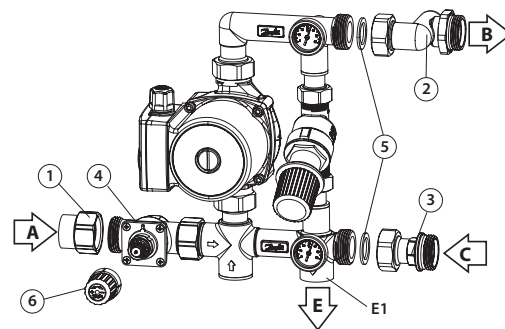

Fig 2.
1. Remove the union nuts 1, 2 and 3 and gasket 5 from mixing shunt which to be used in steps below, as shown in Fig. 2.
of at least 85 Nm without any sealing materials, as shown in Fig. 2.
3. Pre-mounted union nuts 2 and 3 for connection to the secondary side pipe or directly on a Danfoss manifold. The union nuts 2 and 3 to mixing shunt must be tightened with a torque of 30 to 40 Nm with enclosed flat gasket, as shown in Fig. 2.
5. Remove the blue cap 6, as shown in Fig. 2.